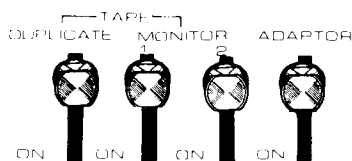

Fig. 21
1. According to the TAPE PLAY (1, 2) or ADAPTOR IN jacks to which the tape deck is connected, either the TAPE MONITOR 1 or 2 switches or the ADAPTOR switch should be set to ON (see Figs. 21 and 22).